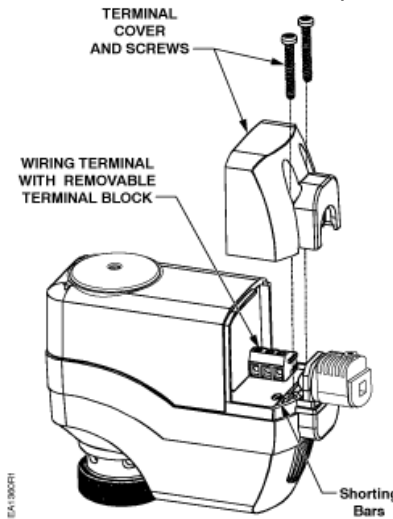

Figure 13. Manually Clearing Calibration Stroke from SSD61.5U Non-volatile Memory.
2. Locate hole on the circuit board with the shorting bars. See Figure 13.